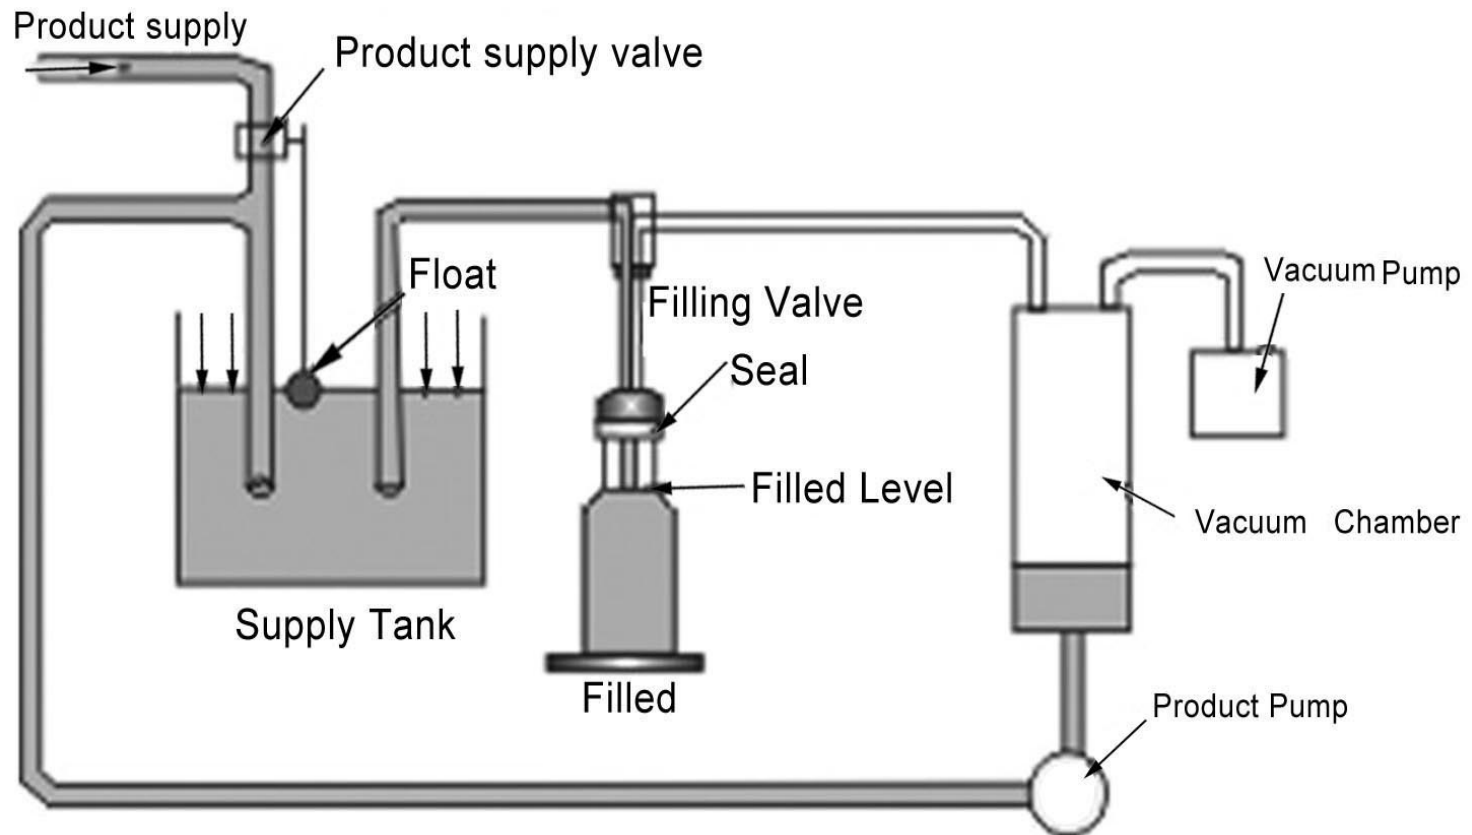

Figure 20.15 Pure vacuum filling
- Used primarily for filling narrow necked glass bottles with still liquids (Figure 20.15).